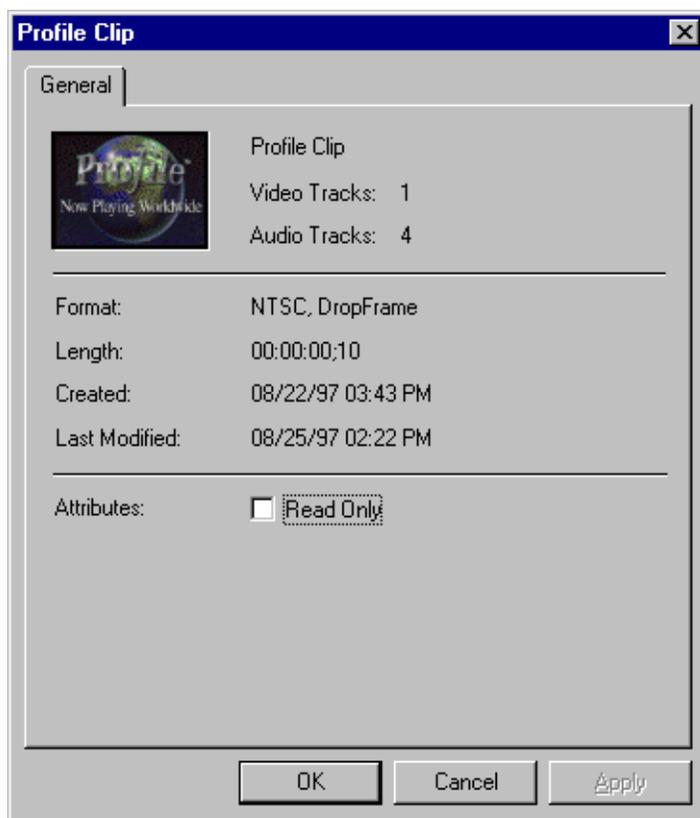

Figure 108. Properties dialog box
2. Choose **Properties** from the **Media** menu or from the shortcut menu with a right-click. You can also double-click the clip or master in the current bin. The Properties dialog box appears (see Figure 108).